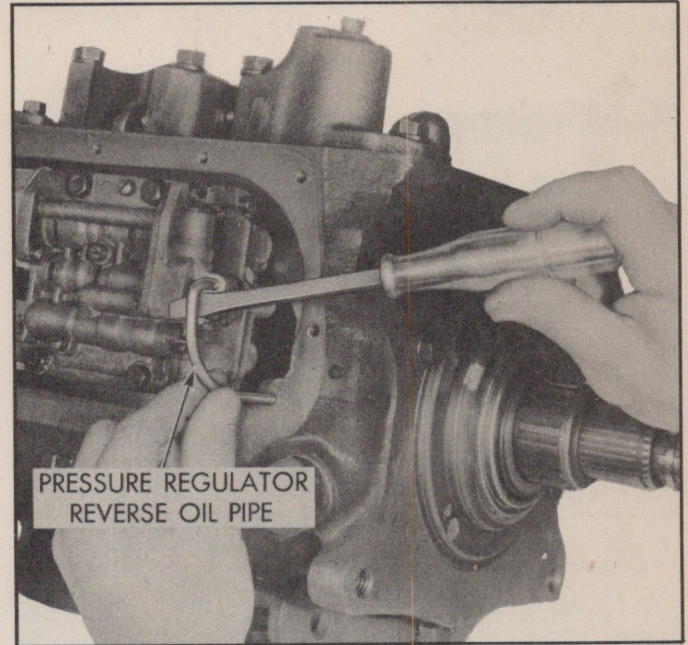

Fig. 91—Removing Pressure Regulator Reverse Oil Pipe
11. Position inner detent control lever in Lo position, and remove pressure regulator reverse oil pipe (Fig. 91).